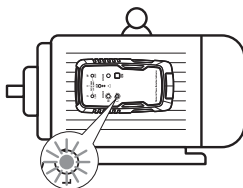

Figure 2
2. As shown in Figure 2, position the MT935 on the motor so that it is parallel to the length of the motor shaft, the meter should be at least 1 inch away from the motor.